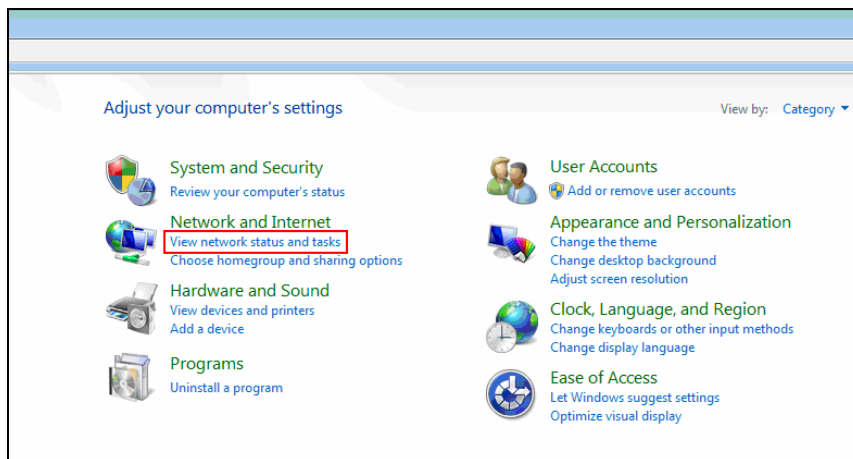

Figure 3-36
1. Follow Steps 1 and 2 in 3.8 *Configuring the IP Address* to access the Control Panel window. See Figure 3-36.